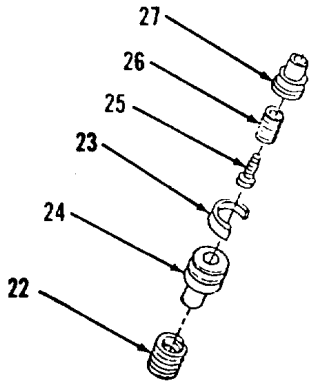

Figure 3-89.
- 23. Install spring (26) and check (25) in bonnet (27, Figure 3-89).